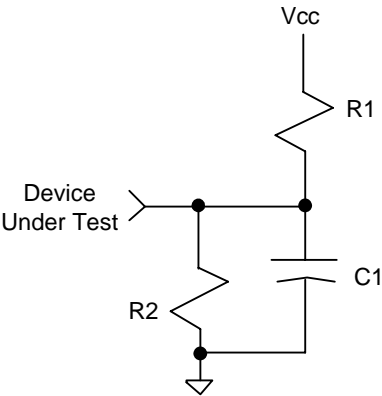

Figure 4: AC Test Load
6. With load specified in Figure 4 on page 19, Test Load A.
7. With load specified in Figure 4 on page 19, Test Load B.